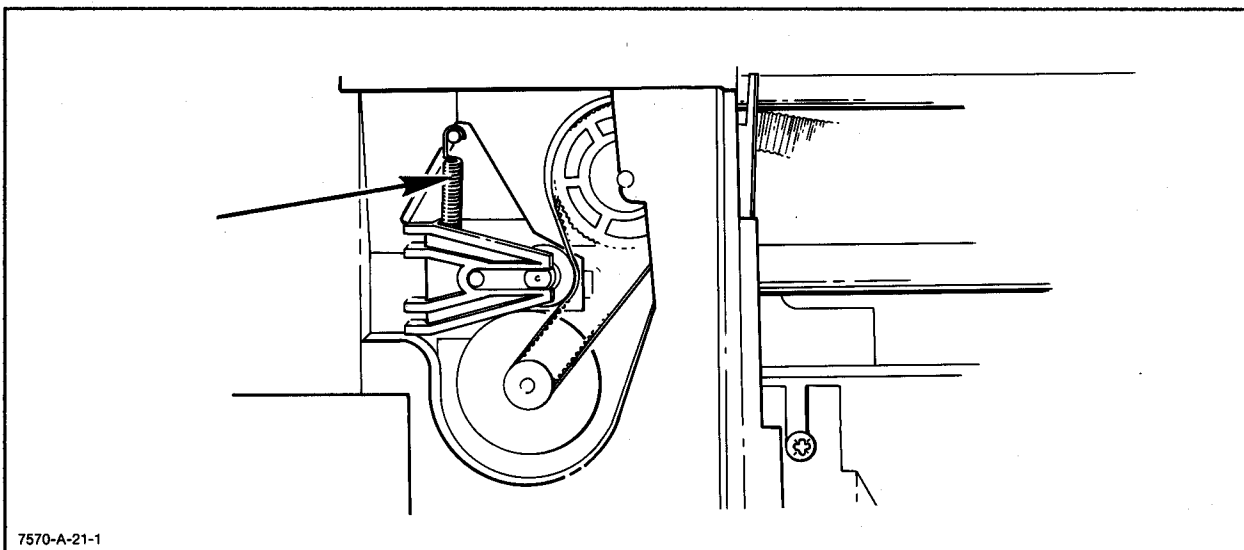

Figure 6-17. Pen Carriage Drive Belt Tensioner
- d. Remove the drive belt tension spring. See Figure 6-17.